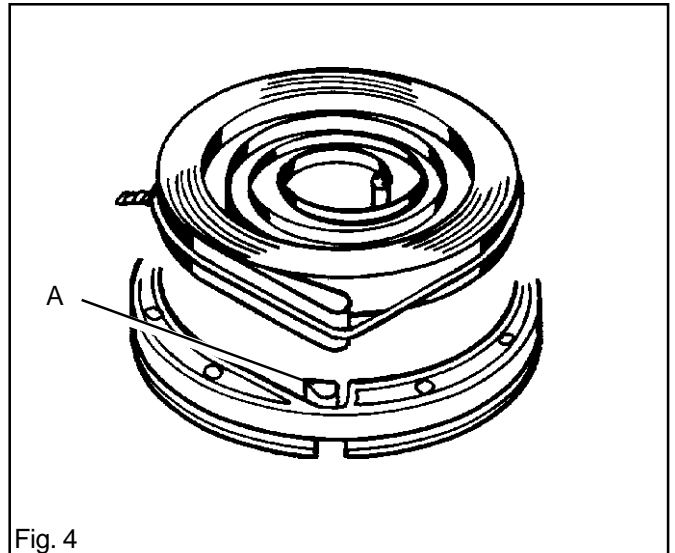

Fig. 4
1. If a new spring is to be fitted, place the new spring with steel wire so that the end loop comes over the peg (A) in starter pulley. See fig. 4.
See fig. 4.